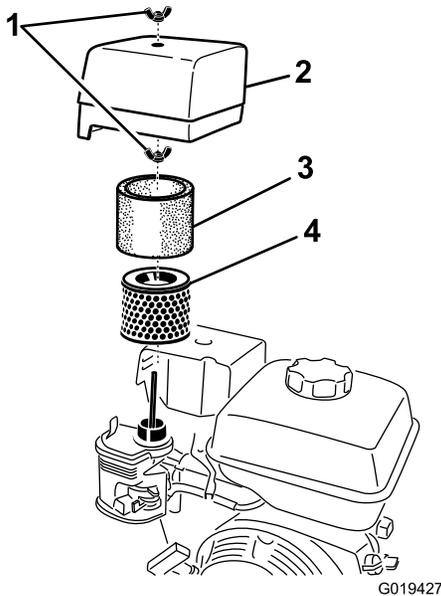

Figure 14
3. Remove the nut that secures the cover (Figure 14).
6. Remove the foam and paper elements from the base (Figure 14).
7. Remove the foam element from the paper element (Figure 14).